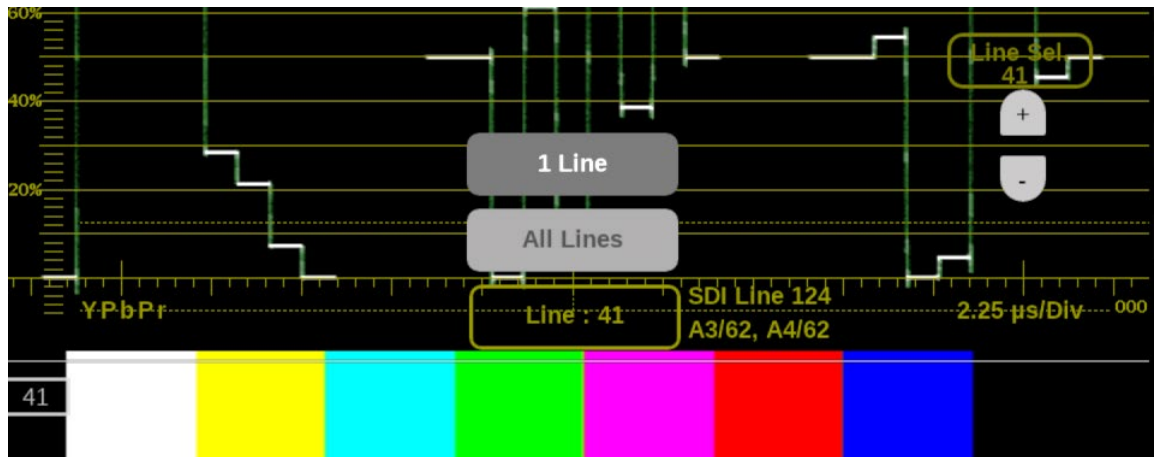

Figure 108: Waveform on-screen tools – SDI Line number
- If a signal is UHD, 4K (see Figure 108):